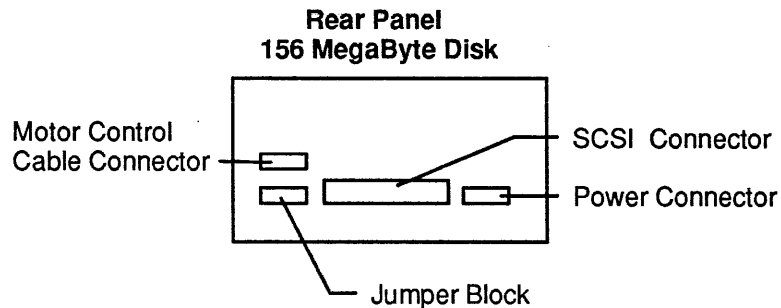

Figure C.8. Reconnecting the Motor Control Cable
- e. Reconnect the Motor Control Cable to the Motor Control Cable Connector. This cable was removed from the connector when the Disk Drive was opened. See Figure C.8.